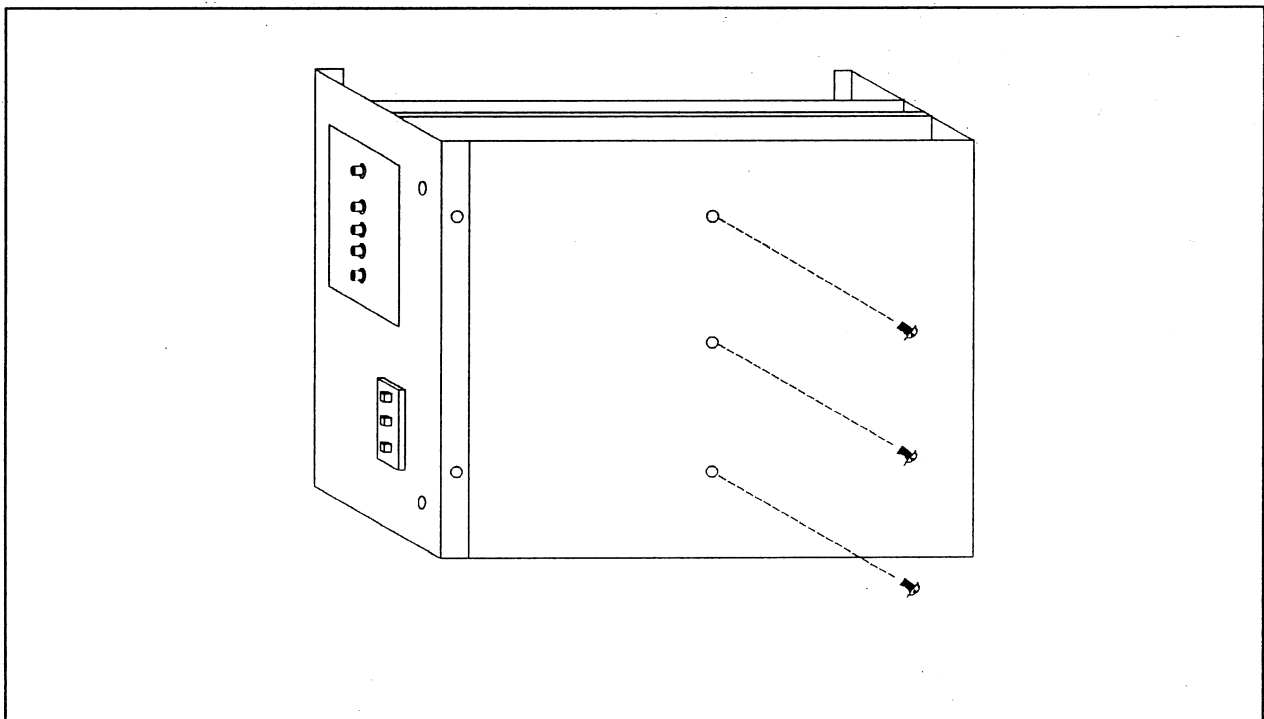

Figure 3-7. Removing the Bottom Screws
- 7** Remove the three screws from the bottom. See Figure 3-7.